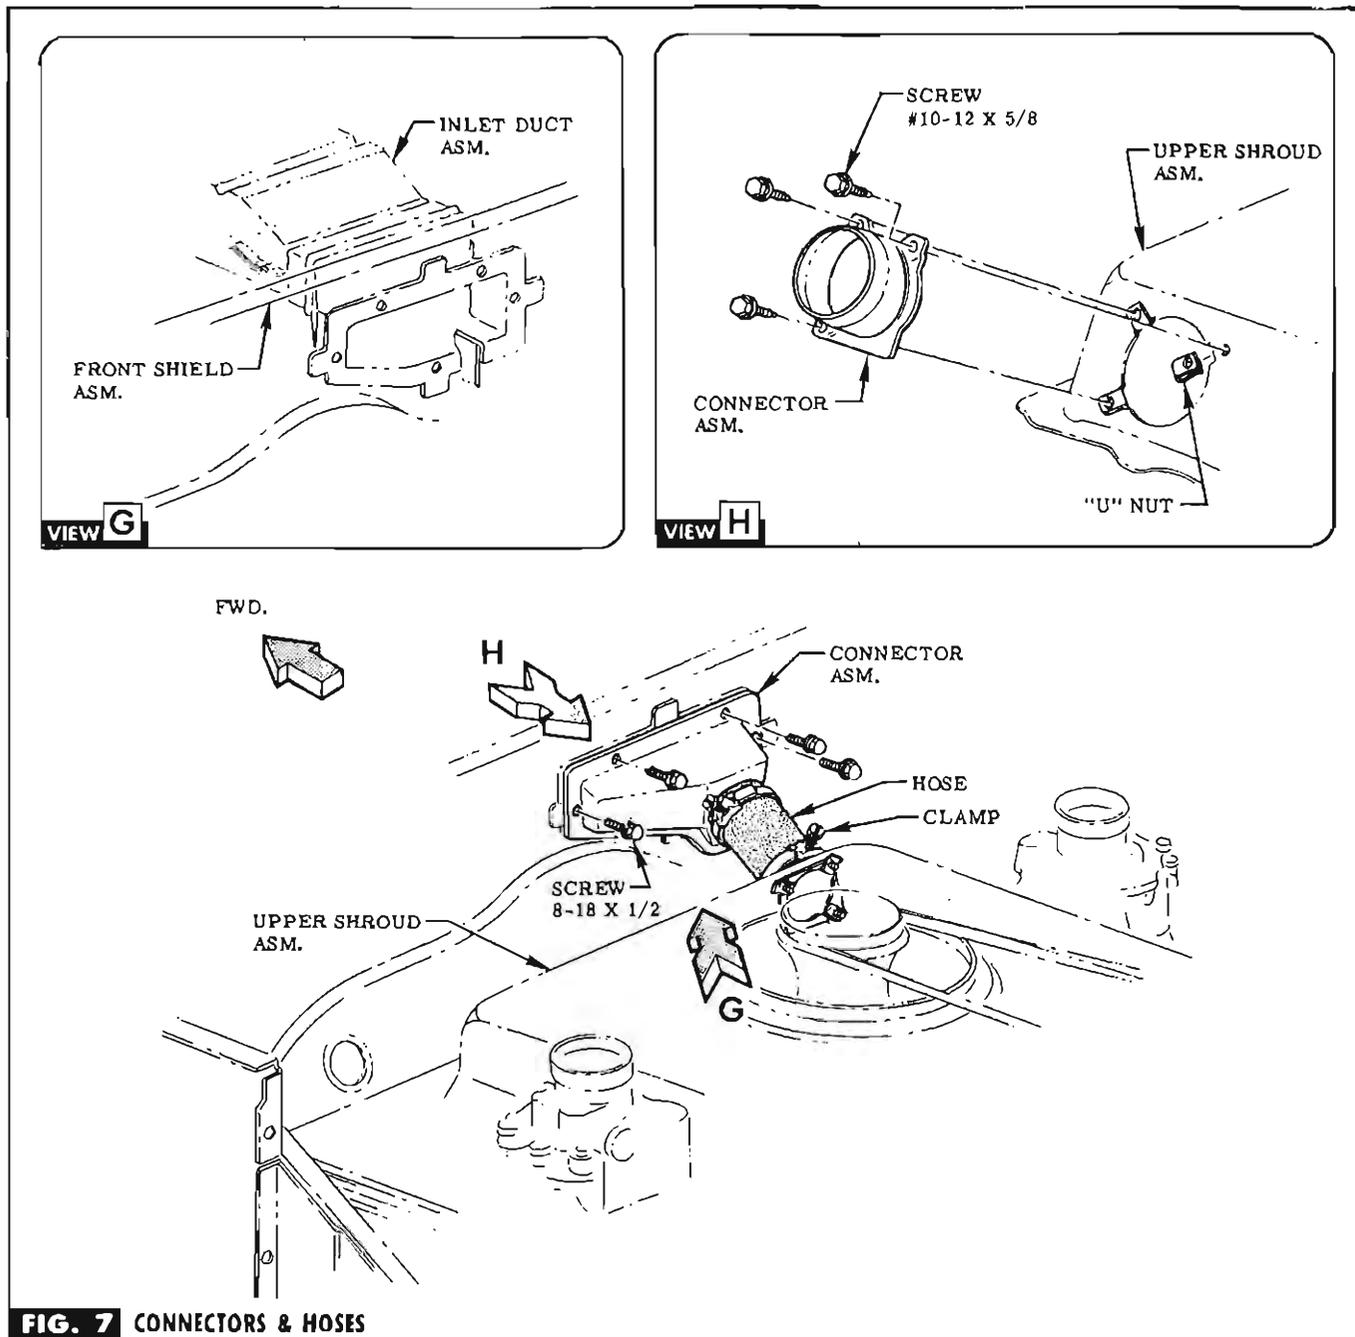

FIG. 7 CONNECTORS & HOSES
STEP 26 INSERT HAND THRU OPENING & PULL INLET DUCT THRU. INSTALL CONNECTOR WITH SCREWS PROVIDED (IN BAG D). SEE FIG. 7 & VIEW G.
STEP 29 PLACE CLAMPS ON THE HOSE & INSTALL HOSE. TIGHTEN CLAMPS. SEE FIG. 7.